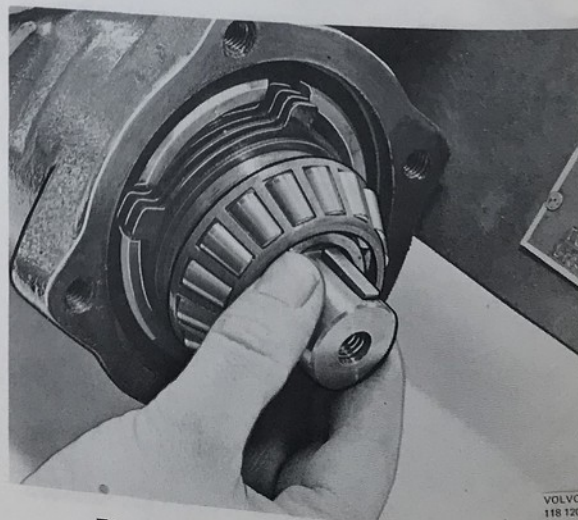

Fig. 92-55. Removing the input shaft
16. Remove the cover and take out the input shaft and discs, see Fig. 92-55.